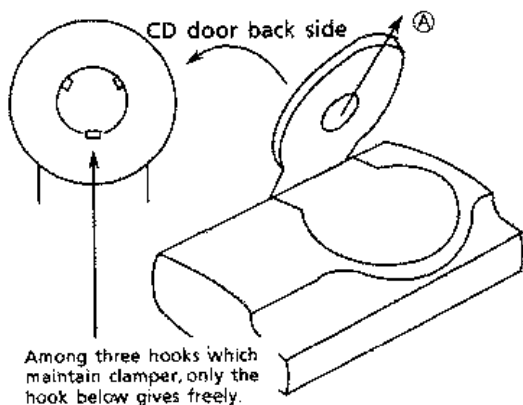

Fig.6
1. The clamper is drawn in the direction of **A** as shown in figure 6 and the clamper removes from the lower side. (Power is somewhat necessary.)